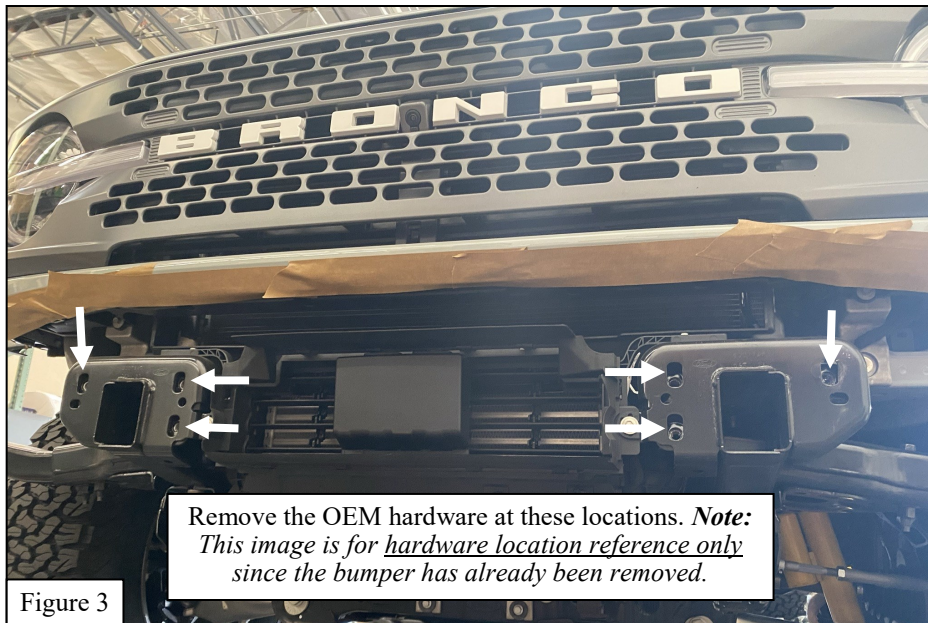

Figure 3
4. Remove the frame mounted bolts from the locations shown. Then, carefully remove the OEM bumper. See **Figure 3** for reference. *Note: Assistance for bumper removal may be needed.*